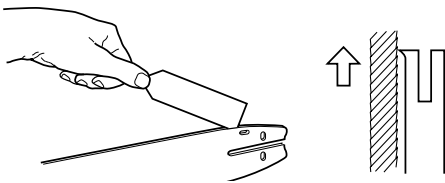

Figure 17 - Guide Bar Maintenance
1. Remove saw dust from the guide bar groove periodically with a putty knife or a wire (See Figure 17).